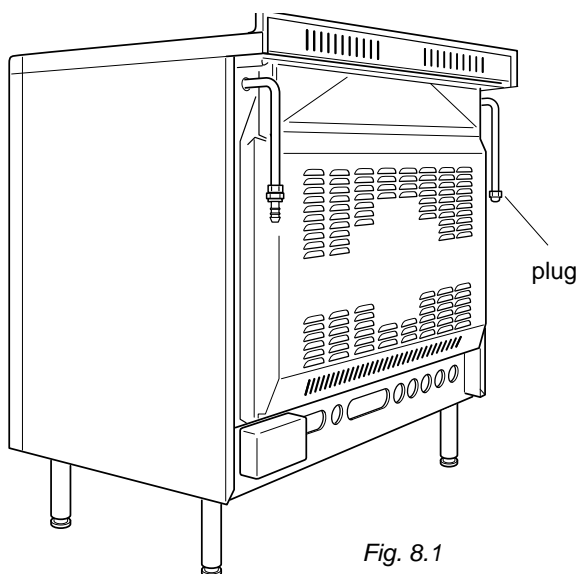

Fig. 8.1
- The connection must be executed to the rear of appliance (left or right) (fig. 8.1); the pipe do not cross the cooker.